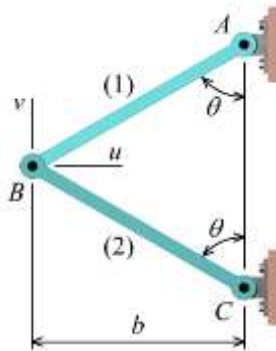

FIGURE P2.22
**P2.22** For the assembly shown in Figure P2.22, high-density polyethylene bars (1) and (2) each have coefficients of thermal expansion of  $\alpha = 88 \times 10^{-6}/^\circ\text{F}$ . If the temperature of the assembly is decreased by  $50^\circ\text{F}$  from its initial temperature, determine the resulting displacement of pin  $B$ . Assume  $b = 32$  in. and  $\theta = 55^\circ$ .